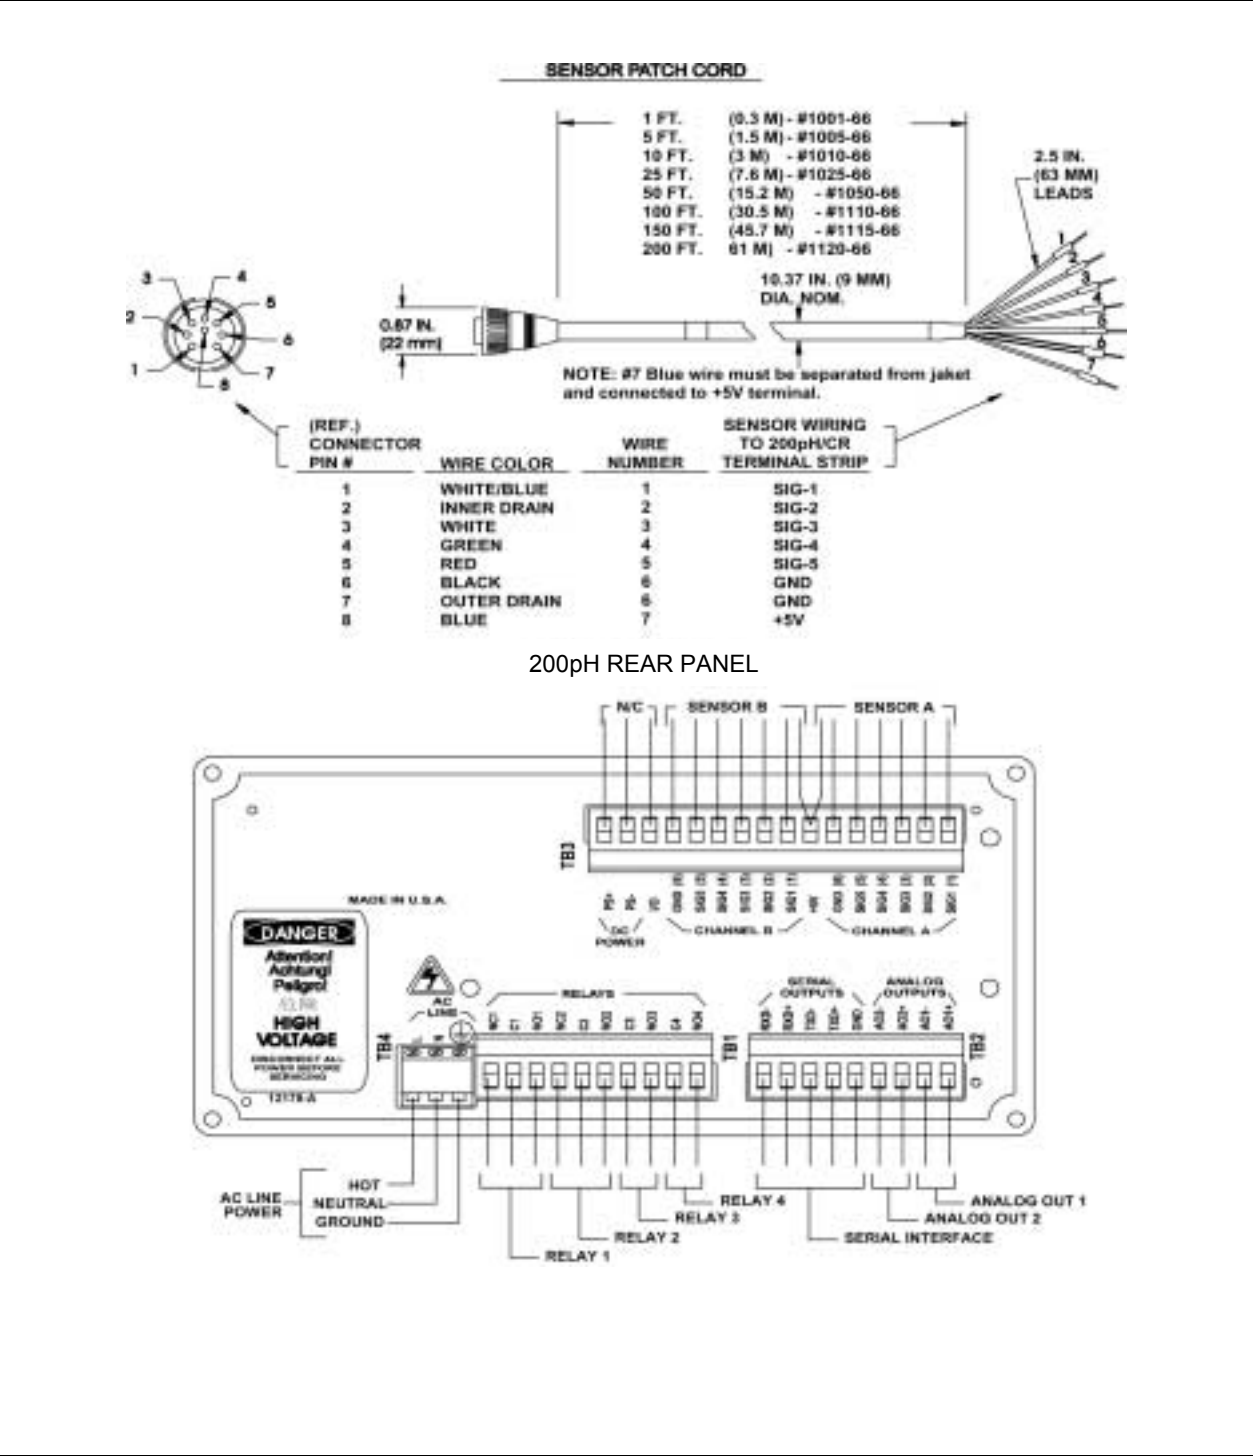

Figure 14.10: Rear Panel Wiring & Patch Cords
10. Wire the cable to the 200pH as indicated. See Figure 14.10.